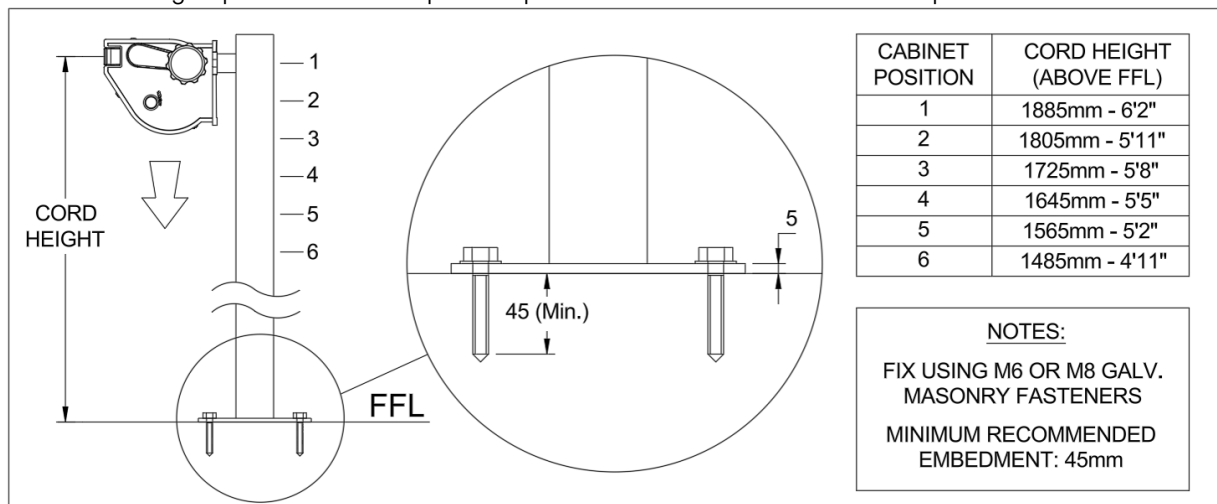

Fig. 7 Installation of Plated Post.
- Install the Post as per the below image (Fig. 7).